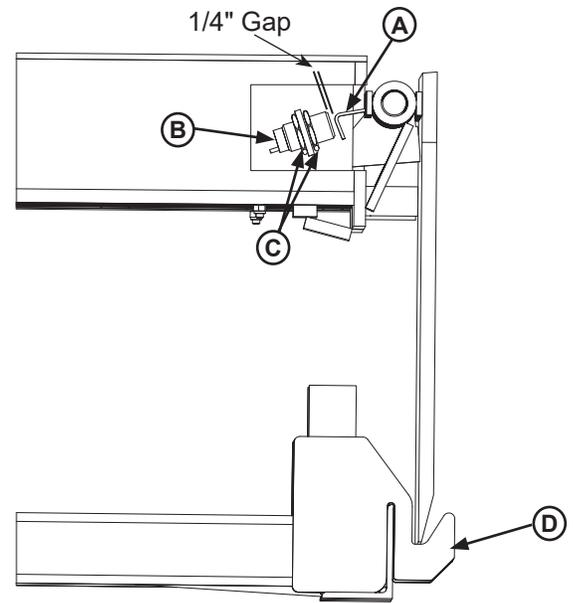

Figure 32
**Stored** - Lip plate is resting in the lip keepers (**D**). In the stored position, target (**A**) is directly in front of the sensor (**B**). See **Figure 32**.
2. When the sensor and target are positioned correctly, the target should be parallel to the face of the sensor with a gap of 1/4", when the lip is in the stored position. See **Figure 32**.